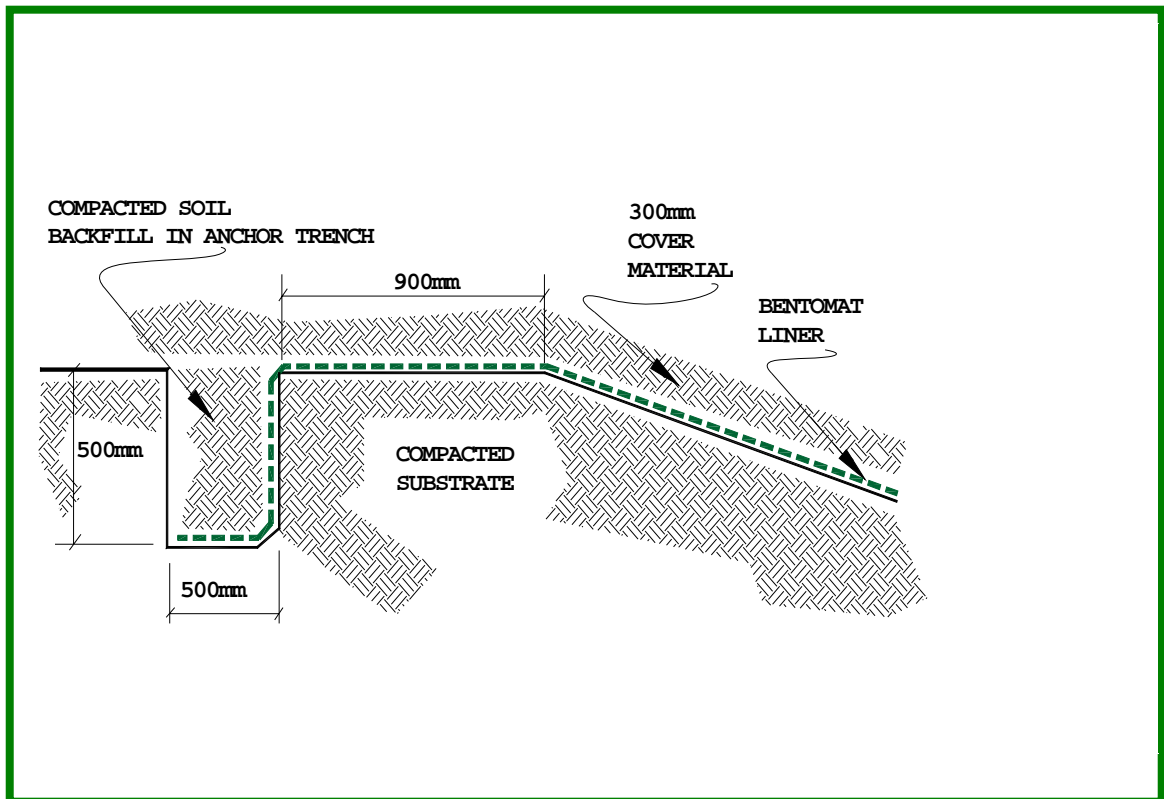

Figure 2. Typical anchor trench location and dimensions.
- 6.3 If a trench is used for anchoring the end of the GCL, soil backfill should be placed in the trench to provide resistance against pullout. The size and shape of the trench, as well as the appropriate backfill procedures, should be in accordance with the project drawings and specifications. Typical dimensions are shown in Figure 2.